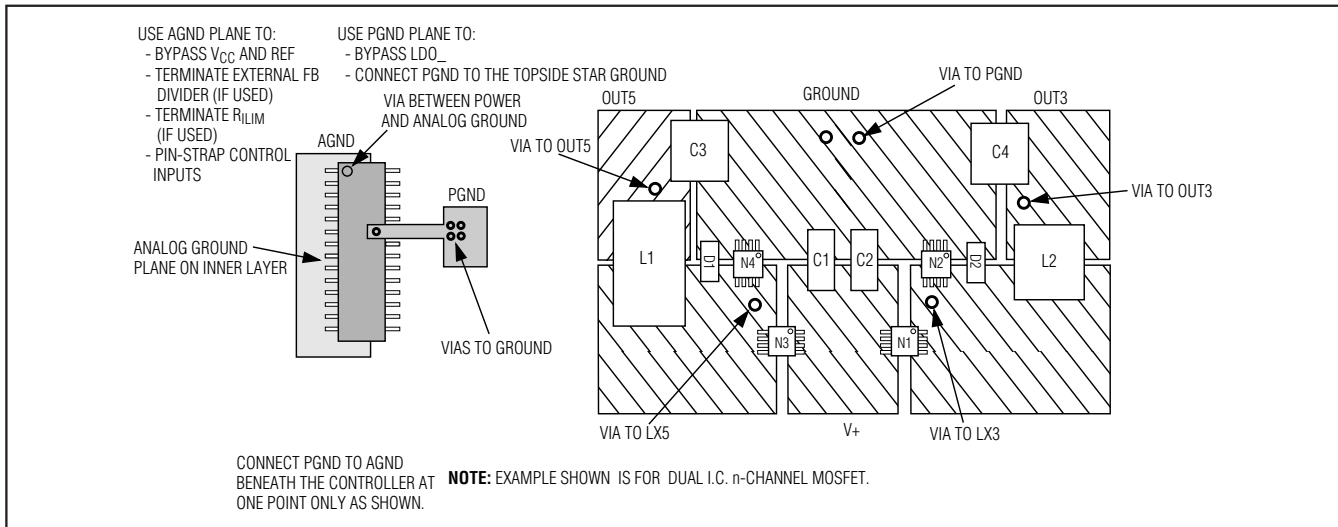

Figure 13. PC Board Layout Example
Careful PC board layout is critical to achieve minimal switching losses and clean, stable operation. This is especially true when multiple converters are on the same PC board where one circuit can affect the other. The switching power stages require particular attention (Figure 13). Refer to the MAX1999 EV kit I.C. data sheet for a specific layout example.
- 4) Make the DC-DC controller ground connections as follows: near the device, create a small analog ground plane. Connect the small analog ground plane to GND (Figure 13) and use the plane for the ground connection for the REF and V_{CC} bypass capacitors, FB dividers, and ILIM resistors (if any). Create another small ground island for PGND, and use the plane for the V_+ bypass capacitor, placed